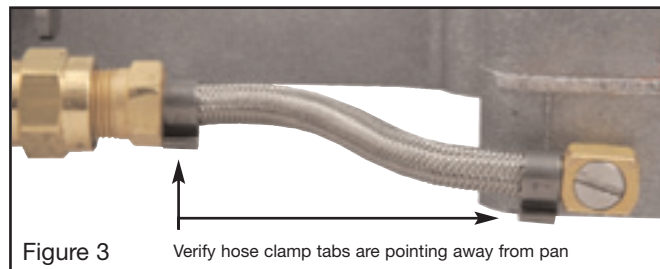

Figure 3
5. Tighten 10-32 feed screw. Verify hose clamp tabs are pointing away from pan (see Figure 3).